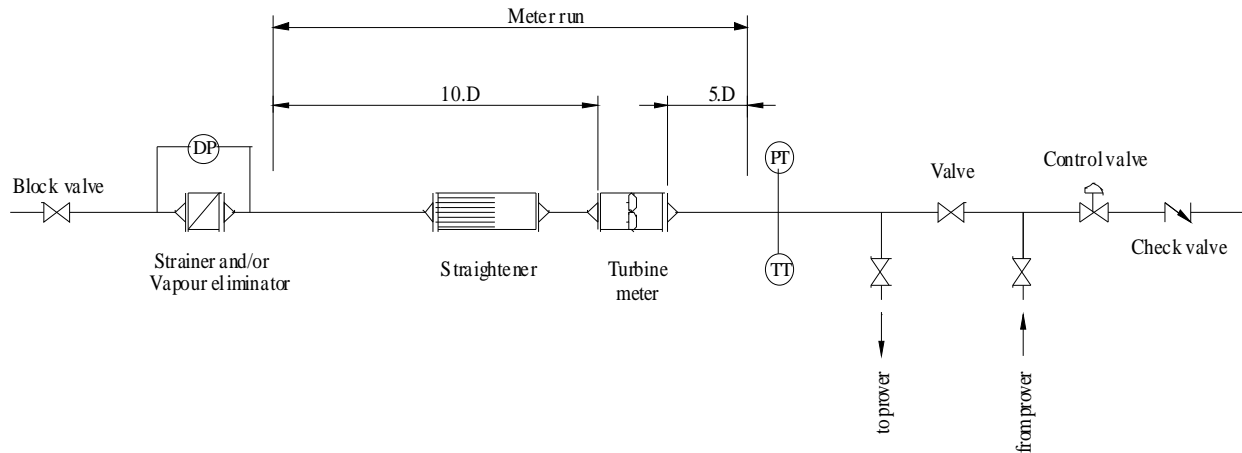

Figure 4
**Helical turbine installation and flow conditioning requirements meet API 5.3** – Flow conditioning requirements for a helical turbine are the same as for any flow profile dependent flow meter. API chapter 5.3 covers installation of liquid turbine Meters and the minimum conditioning requirements for a custody transfer measurement. Figure 4 below details the configuration of a meter run.